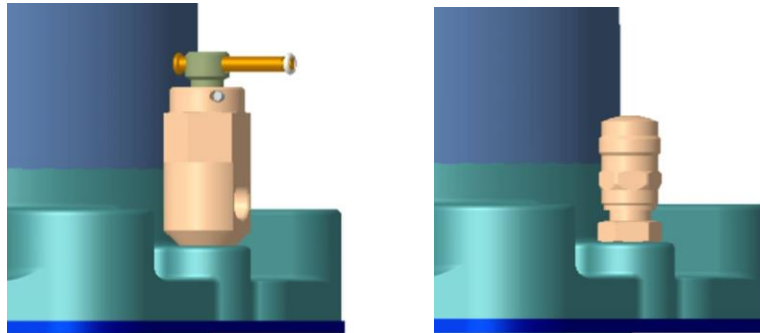

Figure 1 Valve with 1/8" NPT (left) ready for testing. Valve without outlet (right) requires removal for testing.
2. If the PRV has a tell-tale needle valve with a threaded outlet (1/8" NPT, Figure 1, left), remove the outlet cap, open needle valve, and proceed to step 4.
3. Remove the tell-tale needle valve (Figure 1, right) from the PRV body using a wrench (5/8" hex).